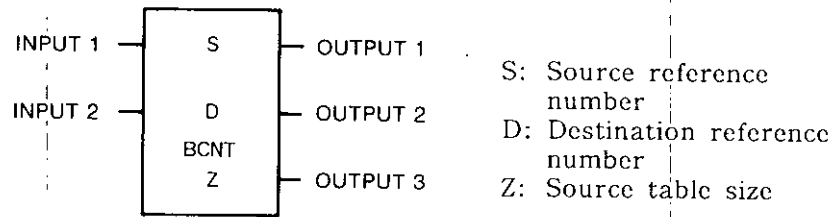

Fig. 5.90 BCNT General Form
- Fig. 5.90 shows the form of bit count.